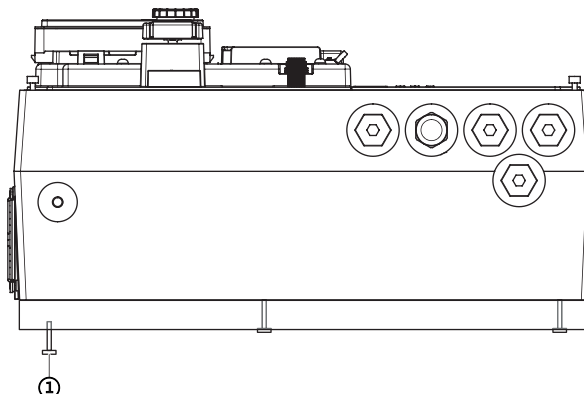

Fig. 116: Loosen adapter plate
6. Loosen the screws of the adapter plate on the bottom of the electronic module (Fig. 116, Item 1).